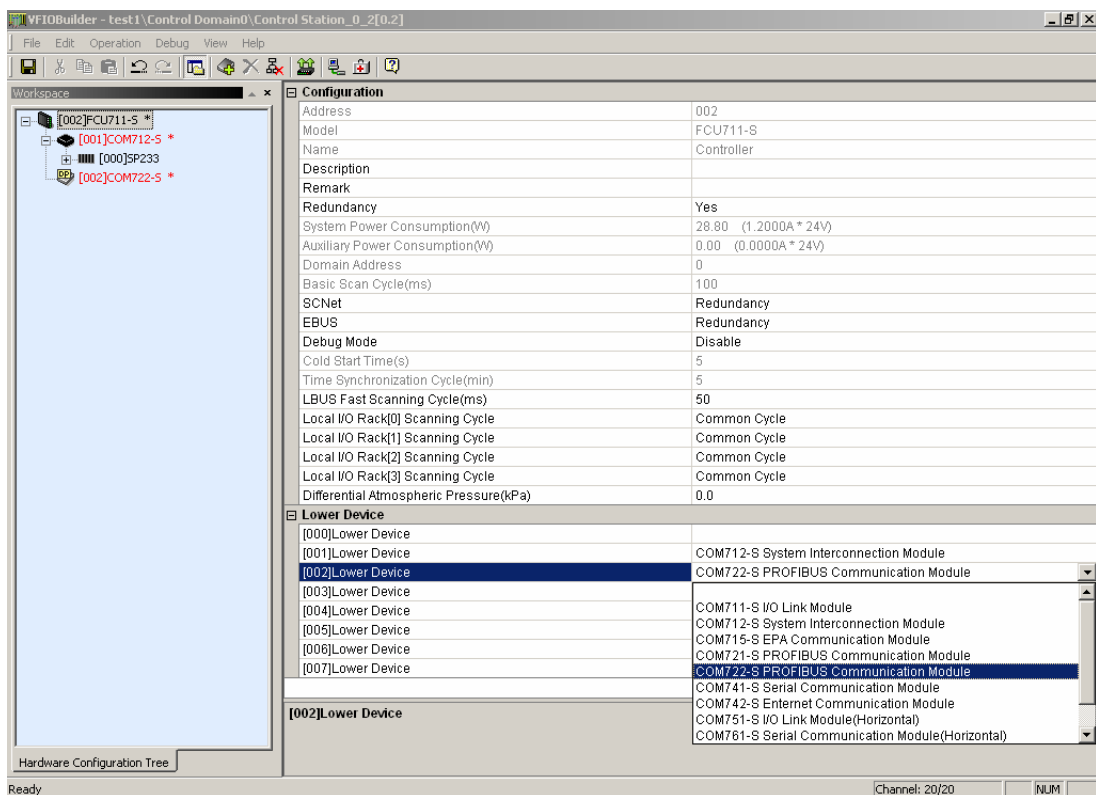

Figure 2-7 Add COM722-S
2. After selecting the controller, add the subordinate device at the subordinate device list at the right view as shown in Figure 2-7.